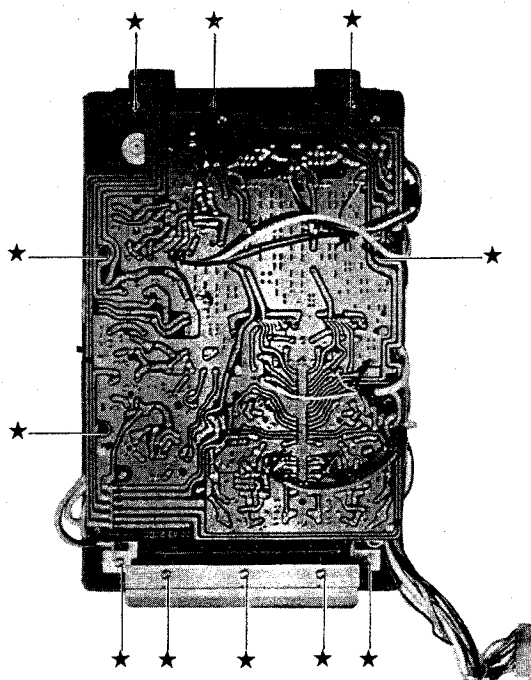

Figure 6
- Remove the eleven screws marked (★) as shown in figure 6, and remove the chassis.